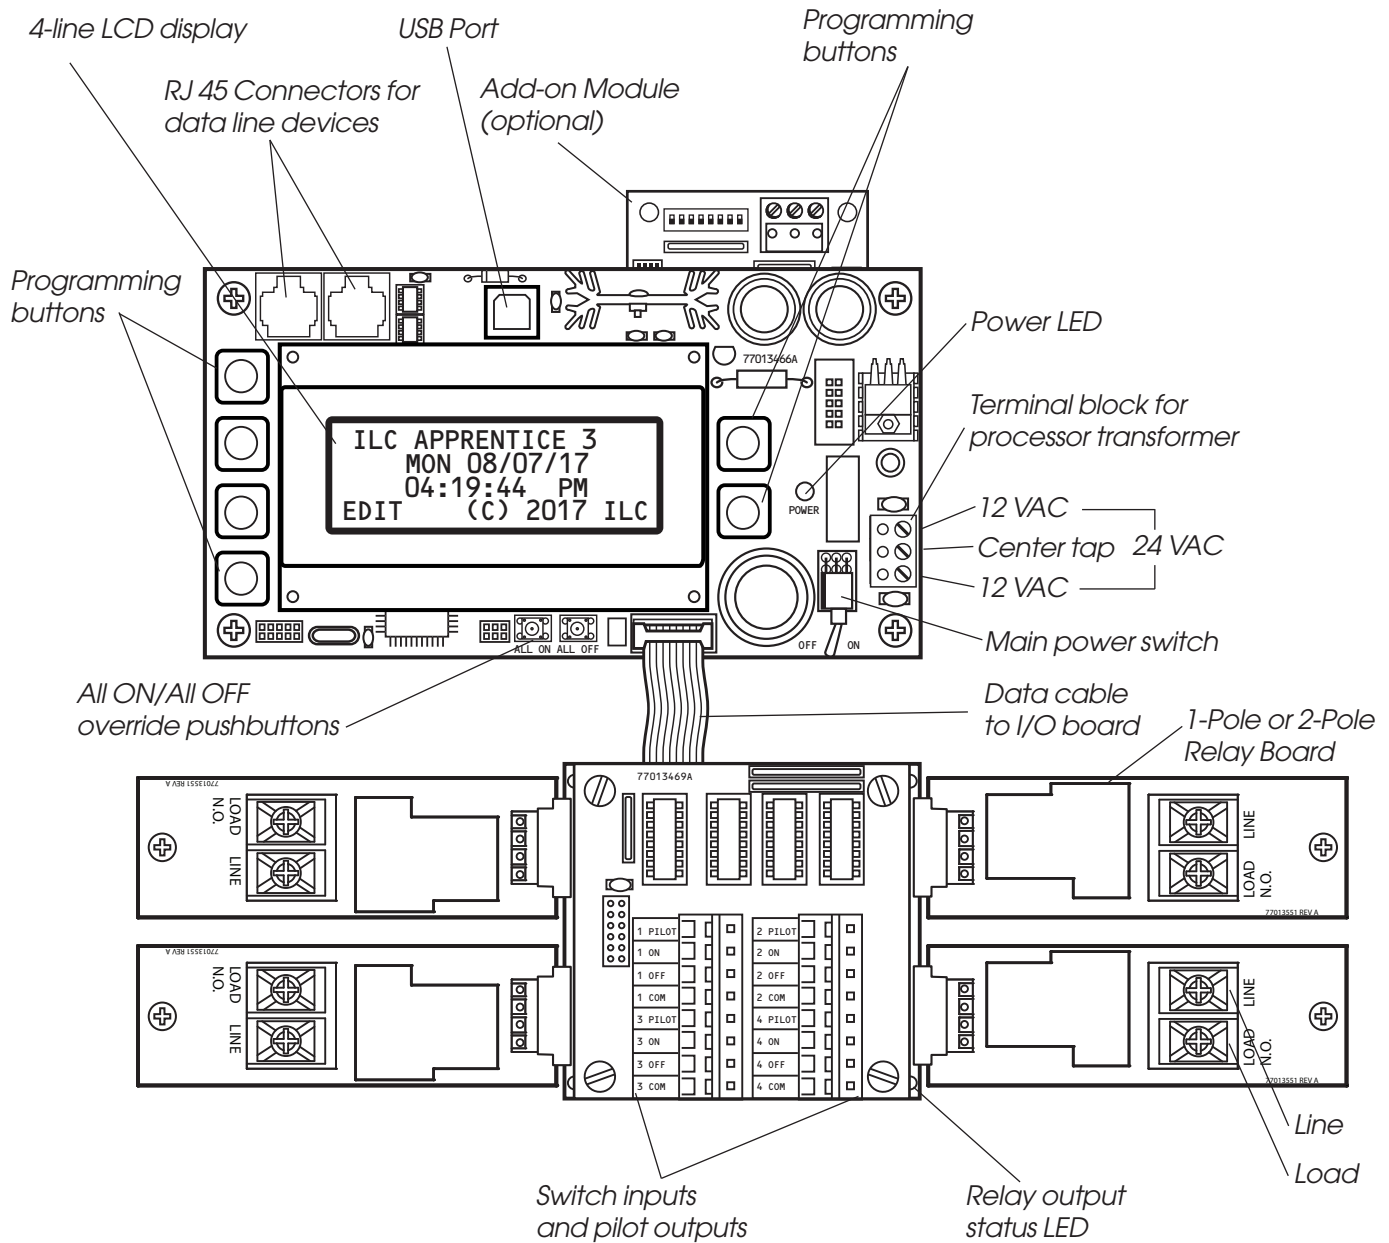

Figure 1.2 – Apprentice 3 CPU Board and I/O
1.1.3 CPU Board – (See Figure 1.2.) The CPU board provides the controller’s intelligence, memory, and communications capabilities. Major components include: